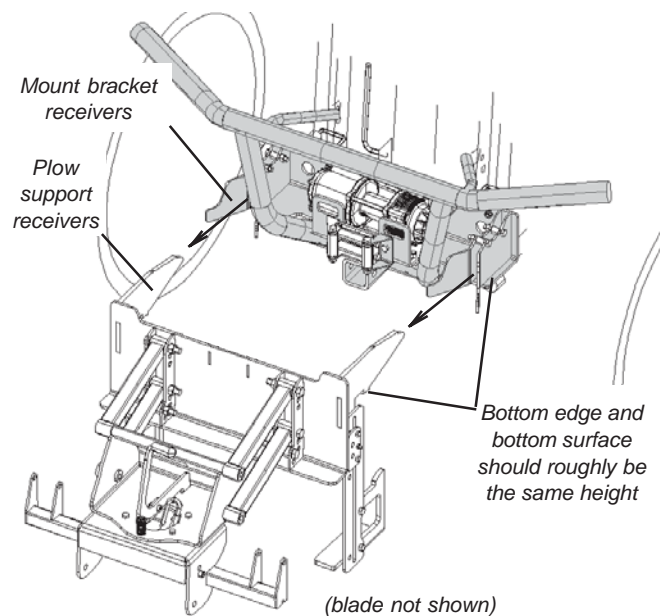

Figure 28 Align receivers and drive up to plow support
3. Drive the vehicle up to the plow support and align the receivers on the plow mount to the receivers on the plow support. See Figure 28. Stop just before the plow support receivers enter the mount receivers.
2. SLOWLY drive the vehicle up to the plow support and align the receiving flanges on the plow mount to the receivers on the plow support. See Figure 28. Stop the vehicle when the support is fully engaged in the plow mount.